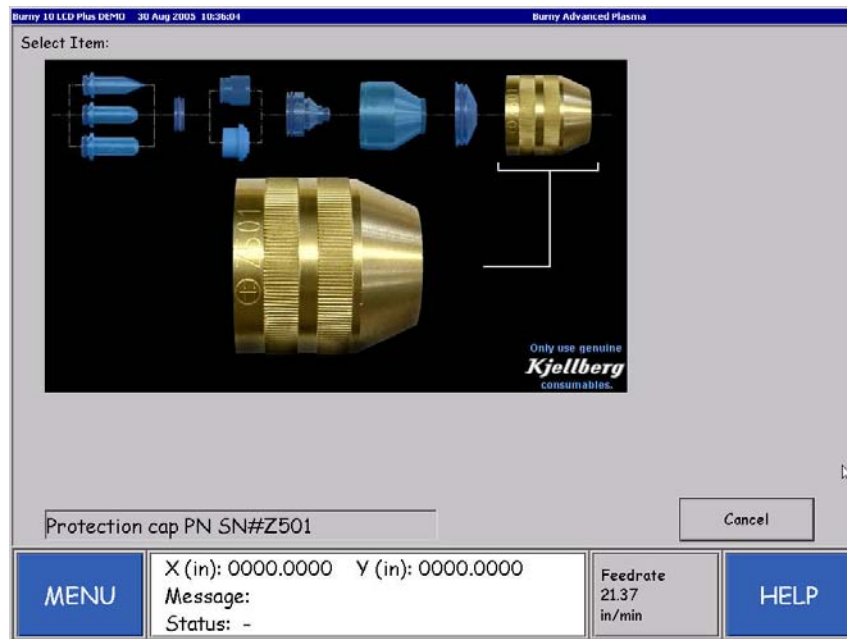

Figure 6 – Consumable Photo and Part number
3. Use the **Scroll arrow** button to select a consumable in the parameter window then, press the **View** button. The system displays a photo and part number for the consumable. Refer to Figure 6.